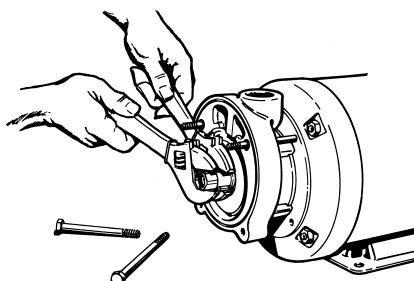

Figure 4-17
- n. Place a second crescent wrench over the nut and tighten in a clockwise direction until it is secured. Refer to Figure 4-17.
- 6. Place the cover over the studs and install the two (2) 3/8" nuts and two (2) 3/8"x4" bolts. Tighten the nuts and bolts, systematically alternating diagonally across the cover. Do not over-tighten the nuts and bolts; final adjustment will be made after the unit is in operation.